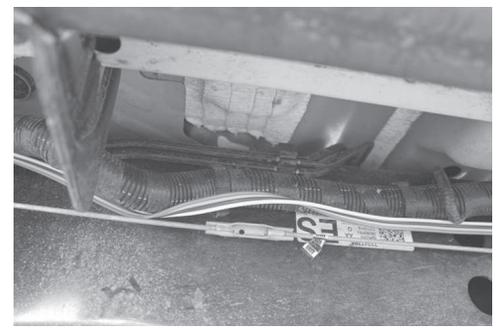

Figure 7
7. Continue routing 4-Flat towards front of vehicle securing to factory wire harness with cable ties provided shown in **Figure 7** until you reach the driver's side front wheel well.